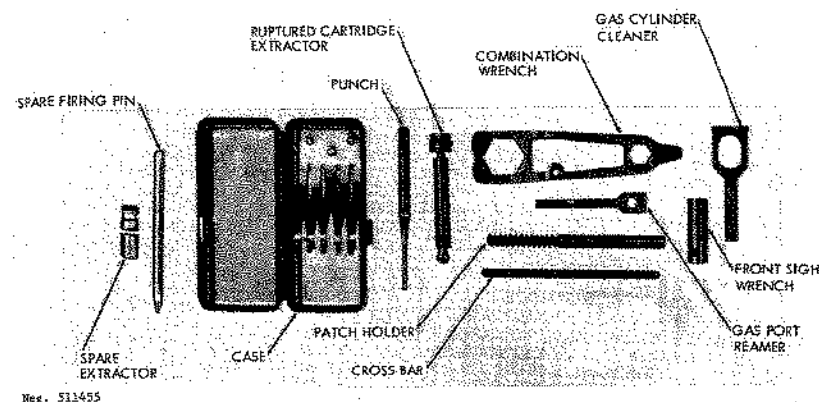

Figure 156. RPD accessories.
- (1) Combination tool kit.
- (2) Belt drums.
- (3) Fabric sling.
- (4) Night-sighting device.
- (5) Blank-firing device.
b. The combination tool kit (fig 156) contains a combination wrench and screwdriver (for use in turning the gas regulator and bipod screws), a gas cylinder cleaner, a reamer for the gas port, a front sight wrench, ruptured cartridge extractor, a pin punch, a cleaning rod tip, and a handle bar. The handle bar is inserted into the front-sight wrench or the gas cylinder cleaning tool in order to rotate them. The ruptured cartridge extractor is
b. The antiaircraft sights (fig 158) consist of a permanently mounted post on the top of the rear sight (fig 156) and an attachable speed ring sight. The speed ring (fig 158) is attached by aligning its base with the dovetail cuts on the front top of the receiver, and then sliding the sight rearward until its lock snaps into place. To remove the AA sight, lift the lock and slide the sight forward.